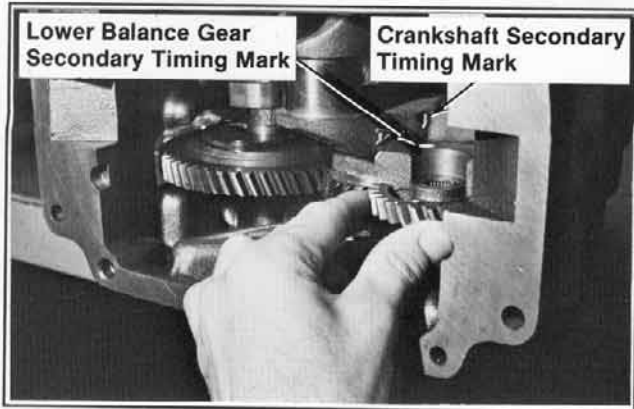

Figure 14. Aligning Lower Balance Gear And Crankshaft.
4. Install the 3/8" spacer and one (1) .010" shim spacer to the stub shaft for the lower balance gear. (Refer to the appropriate Service Manual for complete balance gear installation procedures.)
5. Position the crankshaft so it is about 15° past bottom dead center (BDC). Align the secondary timing mark on lower balance gear with the secondary timing mark on crankshaft. Refer to Figure 14.